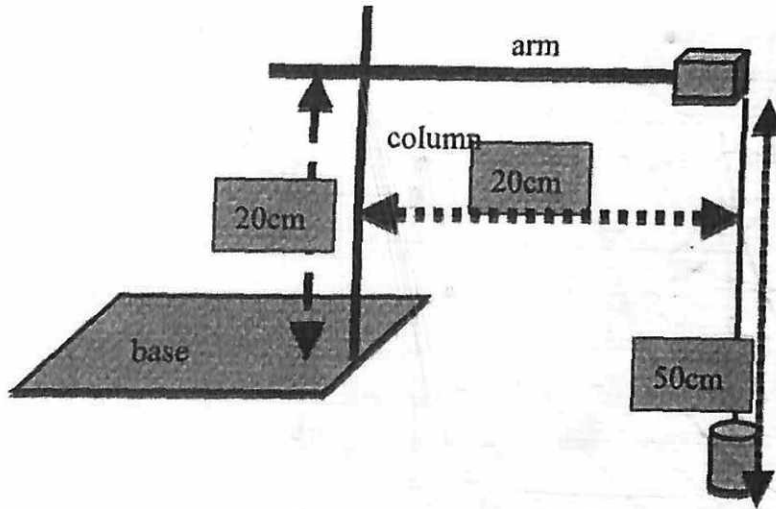

Figure 6.4.1 Diagram of specification
3. This crane arm must extend a minimum of 20 cm (base to string) to raise weights at least 50cm using an electric LEGO motor. (See Figure 6.4.1)